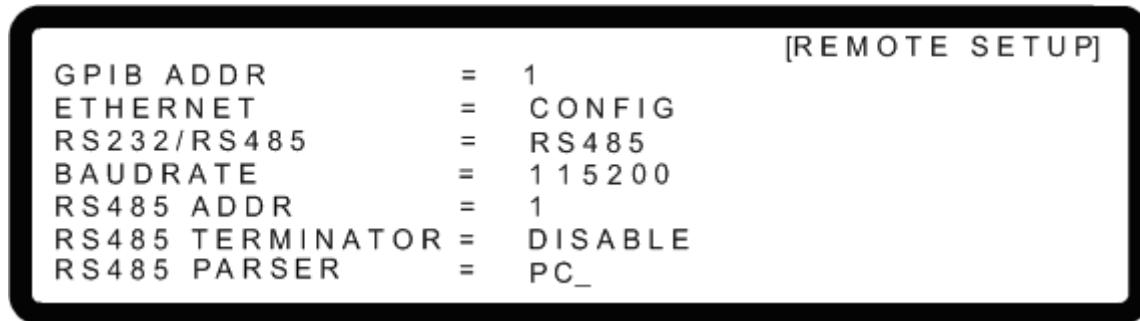

Figure 3-155
1. Use the “, ” keys to move the cursor to the RS485 PARSER column as shown in Figure 3-155.